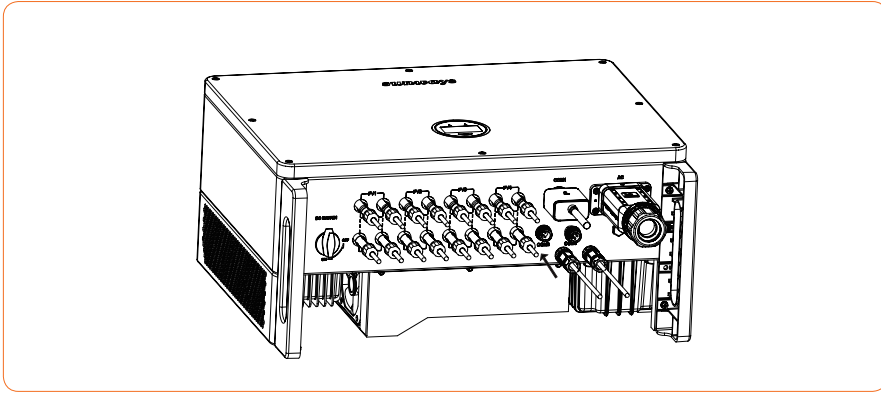

Figure 4-28
③ Connect the terminal to the right position onto the inverter, as shown in Figure 4-28: